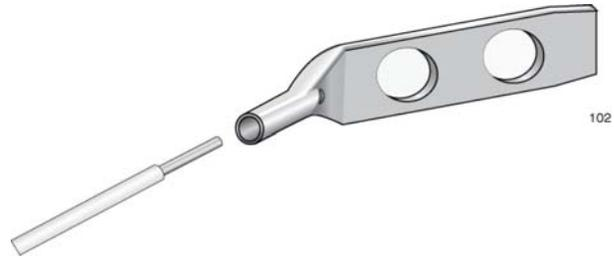

Figure 43. Attaching the Grounding Wire to the Grounding Lug
3. Insert one end of the grounding wire into the grounding lug, as shown in Figure 43, and use a crimping tool to secure the wire to the grounding lug.